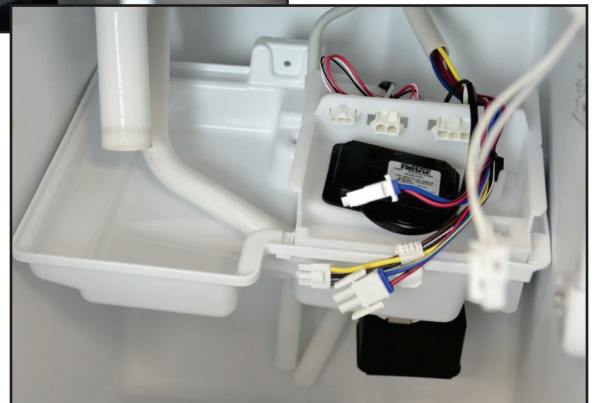

FIGURE 14
- Remove 1 hex head screw and remove the reservoir assembly. Remove wire harness. See *Figure 14*.